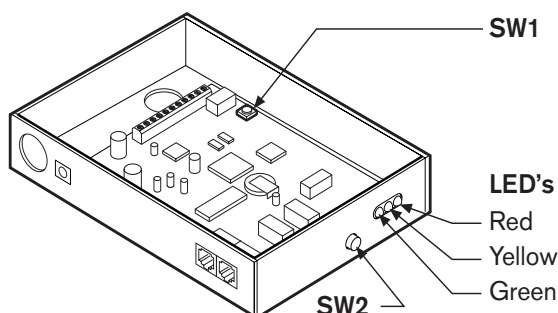

Fig. 35 Gateway Module - switches and LED's
3. Reconnect the power to the gateway. Press and hold **SW1** and **SW2** within **5** seconds of powering up, see Fig. 35.